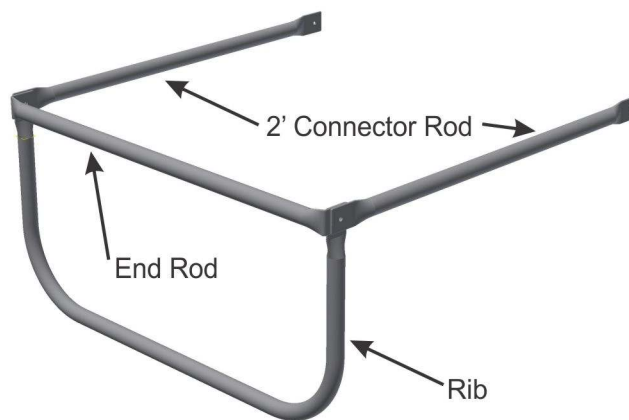

Figure 1
1. Take a rib, end connector rod, and two 2' connector rods. Set them as shown in Figure 1.